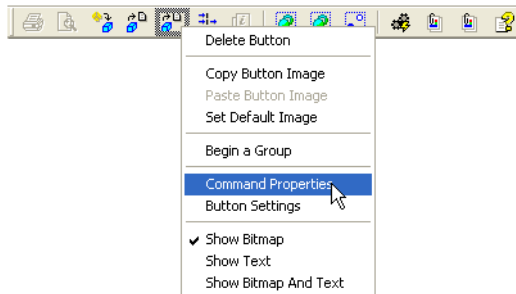

Figure 1-25. Display Command Properties
1. Right-click an **import/export toolbar button** and click **Command Properties** on the pop-up menu (Figure 1-25).